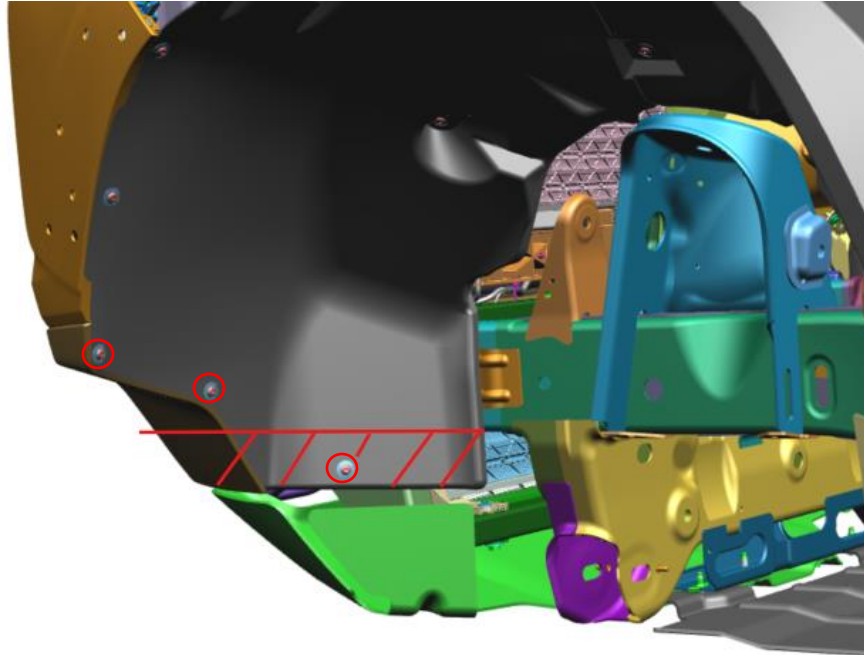

Figure 1 - Driver Side Wheel Liner Trim
- c. Trim along straight line and discard bottom portion eliminating 4 hole locations. – Fig. 1